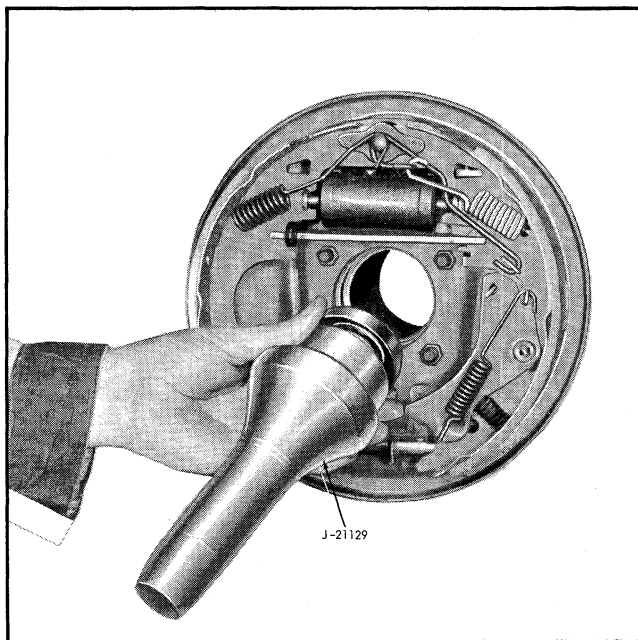

Fig. 4-15 Positioning Seal on Tool
3. Position seal over installer J-21129 (Fig. 4-15) and drive straight into axle housing until tool bottoms on bearing shoulder in housing.